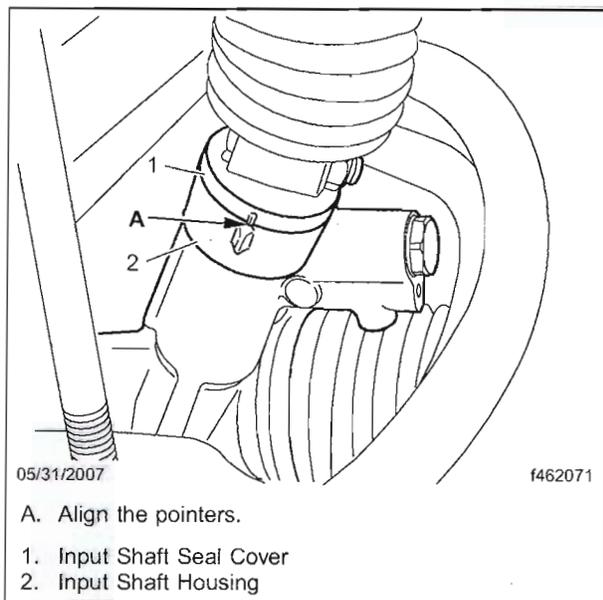

Fig. 1, Pointer Alignment
3. Turn the steering wheel one full rotation to the left to move the inner tie rod inward and align the gear for the following steps. Ensure the timing pointers on the input shaft seal cover and input shaft housing are aligned. See **Fig. 1**.